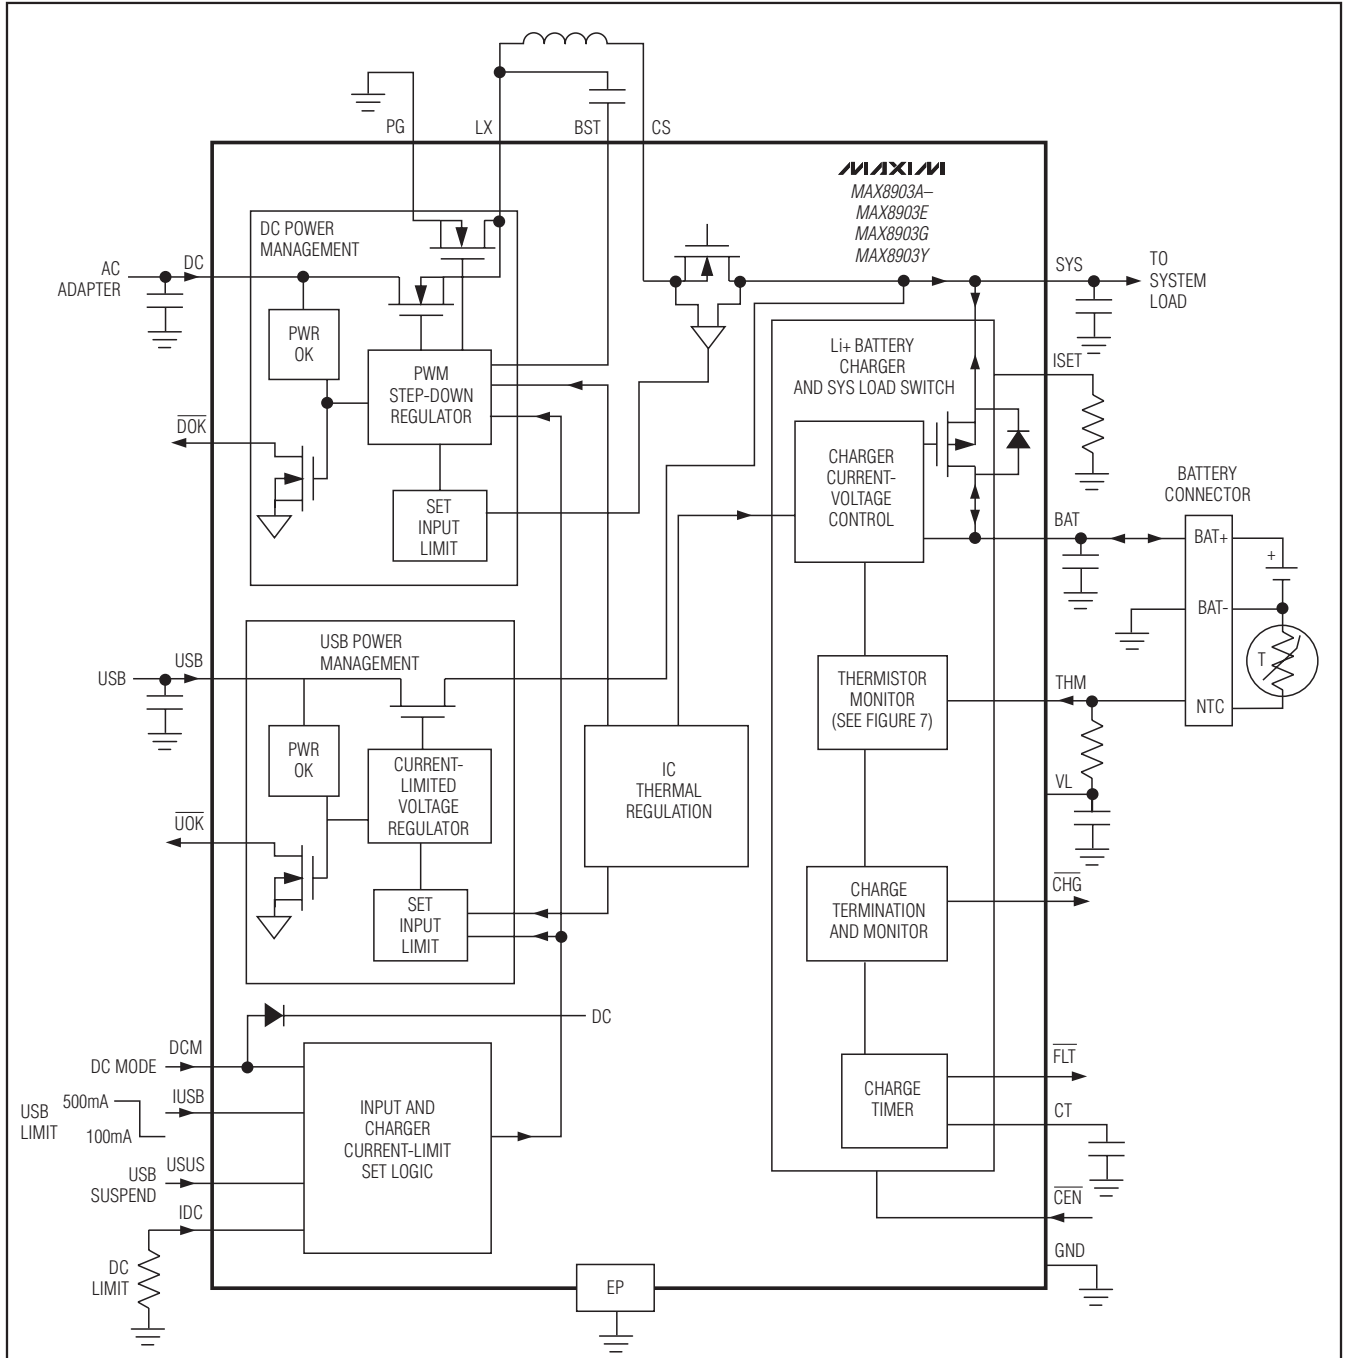
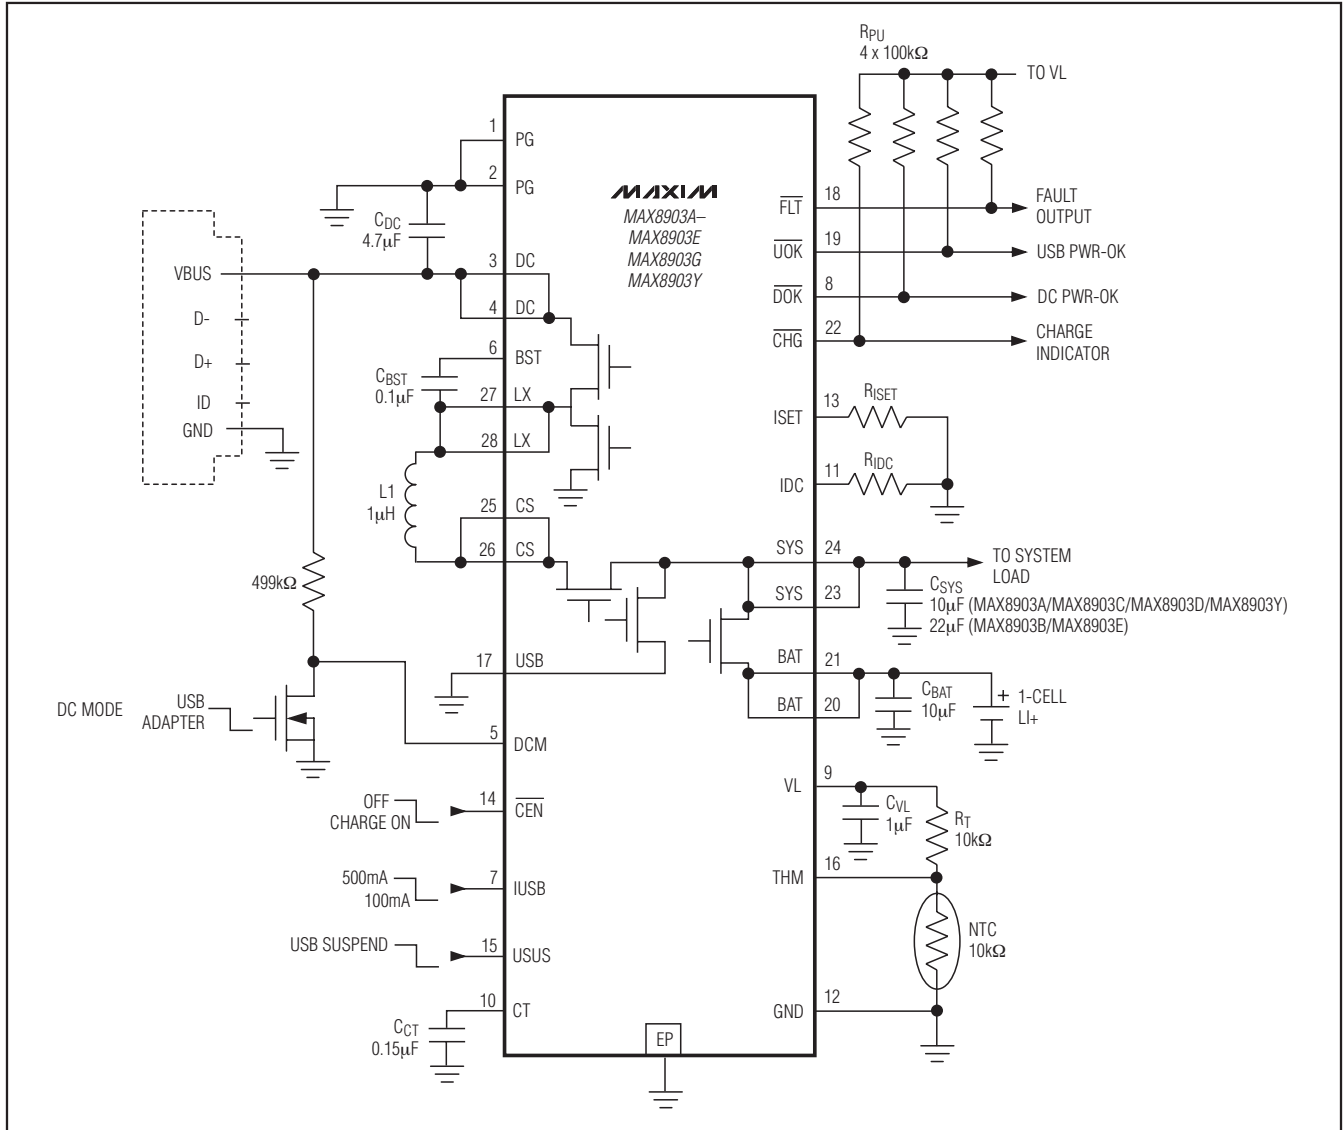

Figure 1. Functional Block Diagram
Figure 3. Typical Application Circuit Using a Mini 5 Style Connector or Other DC/USB Common Connector
As shown in Figure 1, the IC includes a full-featured charger with thermistor monitor, fault timer, charger status, and fault outputs. Also included are power-OK signals for both USB and DC. Flexibility is maintained with adjustable charge current, input current limit, and a minimum system voltage (when charging is scaled back to hold the system voltage up).
The DCM pin has an internal diode to DC as shown in Figure 1. To prevent current from flowing from DCM through the internal diode and to the DC input, DCM
cannot be driven to a voltage higher than DC. The circuit of Figure 3 shows a simple MOSFET and resistor on DCM to prevent any current from flowing from DCM through the internal diode to DC. This circuit of Figure 3 allows a microprocessor to drive the gate of the MOSFET to any state at any time.
An alternative to the simple MOSFET and resistor on DCM as shown in Figure 3 is to place a $1M\Omega$ resistor in series with the DCM input to the microprocessor. The microprocessor can then monitor the \overline{DOK} output and make sure that whenever \overline{DOK} is high DCM is also low. In the event that DCM is driven to a higher voltage than DC, the $1M\Omega$ series resistance limits the current from DCM through the internal diode to DC to a few μA .
***There is an internal diode from DCM (anode) to DC (cathode) as shown in Figure 1. If the DCM level needs to be set by a μP , use a MOSFET for isolation as shown in Figure 3.